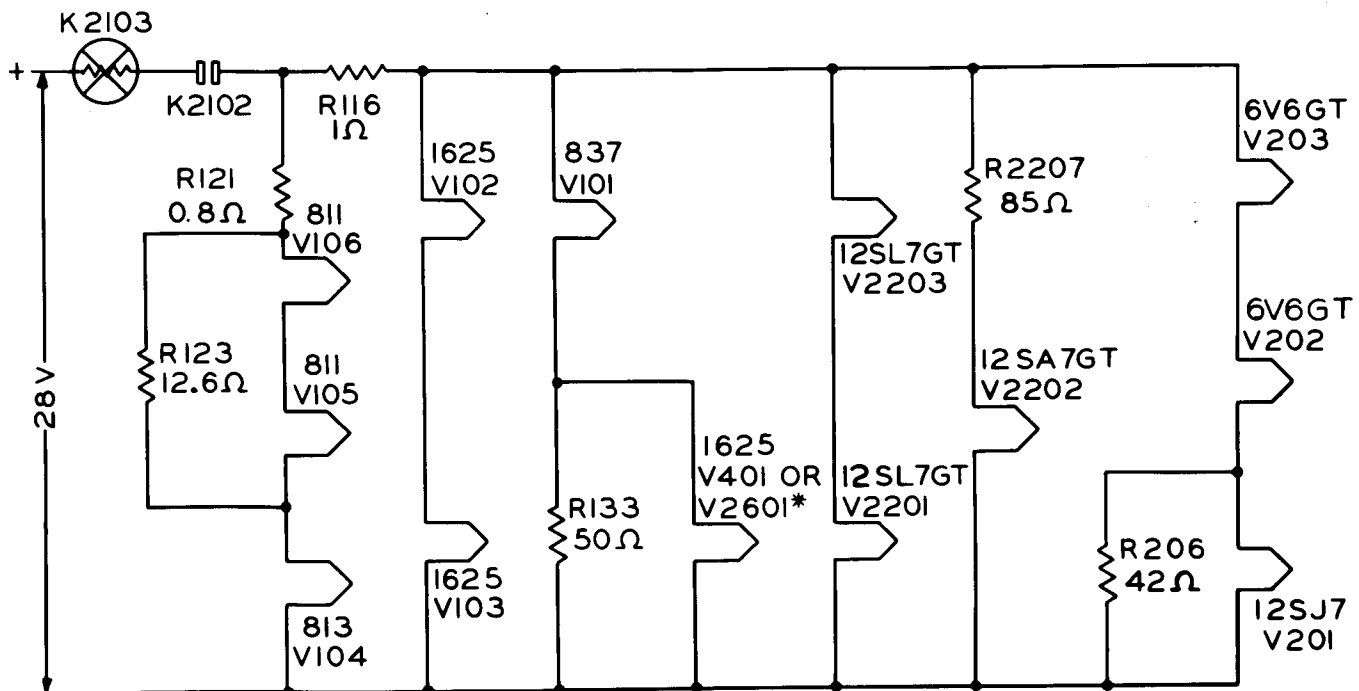

Figure 4-2. Filament Circuits
*a.* The filament power circuits of the transmitter are a combination of series and parallel connections. Power is from the 28 volt dc source. Figure 4-2. shows the filament connections in simplified form. All filament power is controlled by the contacts of primary power contactor K2102. The primary overload relay, K2103, operates to break the circuit when an overload occurs in the filament or associated circuits.